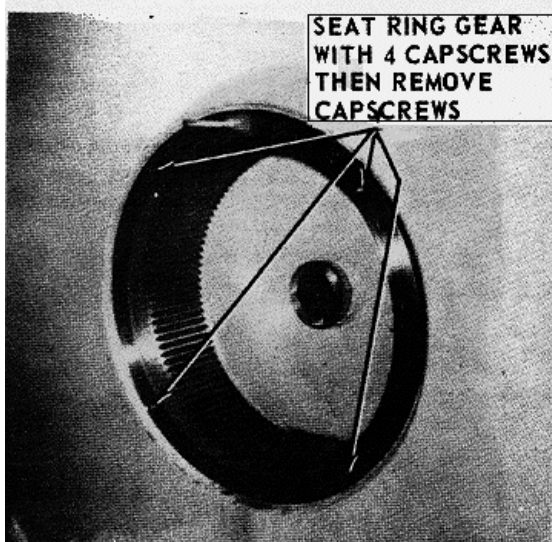

FIGURE 8-32.
m. Install the ring gear using a pilot stud. Using four capscrews, seat the ring gear in the drum. Remove the four capscrews (see figure 8-32).